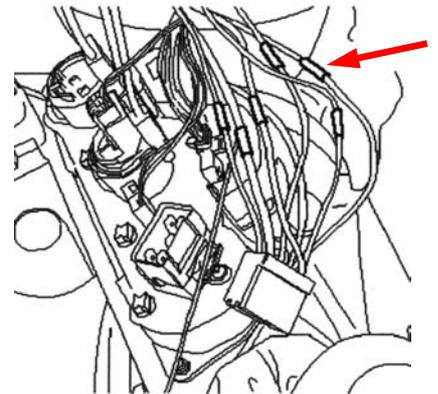

Fig. 3
- number 8KW 744 888-003 (see Fig. 3)